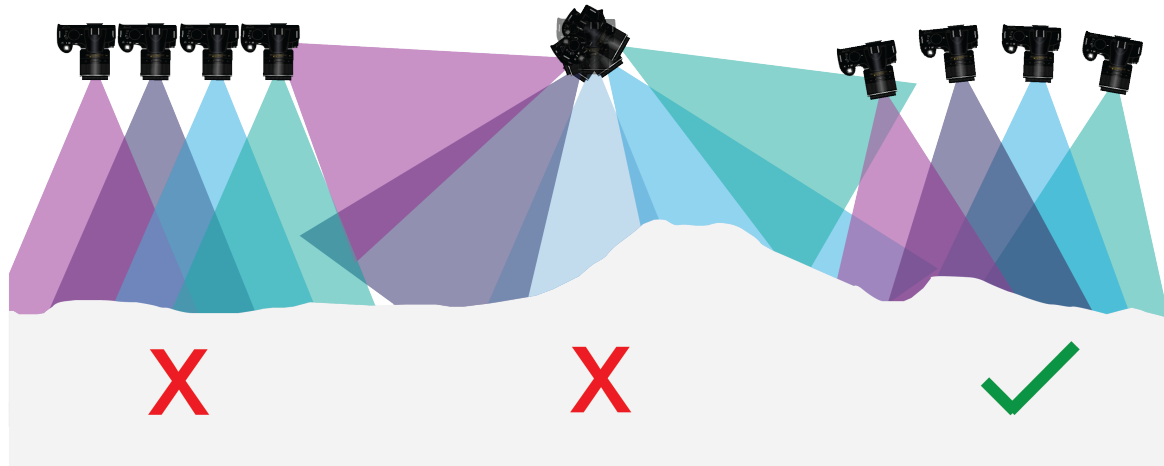

Figure 11. Do not take photos in a planar or divergent fashion (left and center). Take photos in a convergent fashion.
1. Photos should be taken in a convergent fashion (Figure 11). James and Robson (2014) have shown photographs taken in a divergent or planar orientation distort the model.